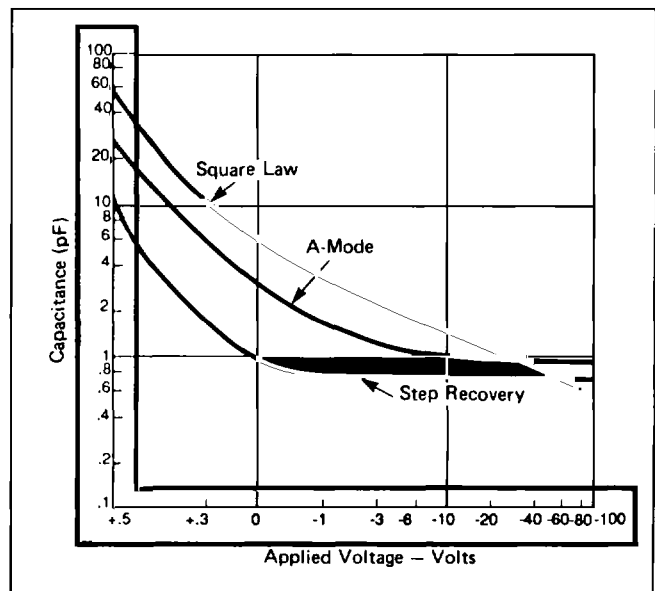
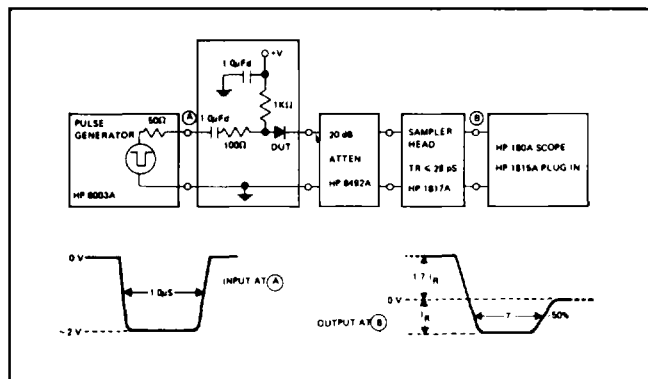
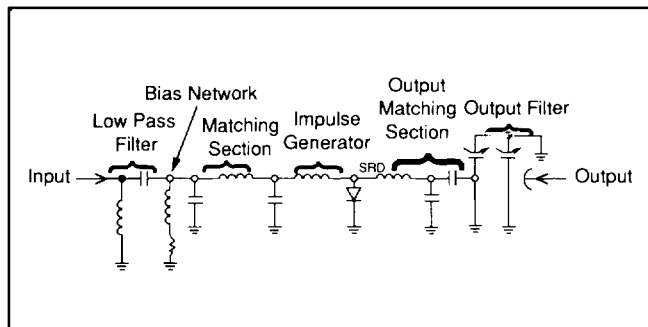

Figure 1. Capacitance vs. Applied Voltage for Square Root Law and A-Mode Multipliers and Step Recovery Diodes
Figure 4. Minority Carrier Lifetime, τ , Test Set-Up
Figure 6. Typical SRD Multiplier Circuit
3 are graphs which can be used to easily determine the limiting values t and T_T . Test circuits to determine t and T_T are shown in Figures 4 and 5. For optimum performance an ideal SRD will be a punch-through device at zero volts (any increase in reverse bias above zero volts will not decrease capacitance) but will have a highly non-linear capacitance increase as the diode is forward biased. In actual practice a step recovery diode will not be zero punch-through but will have $C_{J0}/C_{J6} \leq 1.4$. This can be clearly seen in Figure 1. SRDs are highly efficient, and idlers are not needed although, if used, may further increase efficiency. A typical SRD circuit is shown in Figure 6.
3. Measured at I_F = 10mA, I_R = 6mA (see Figure 4).
4. Measured at I_F = 10 mA, I_R = 6mA (see Figure 4)
4. Measured at $I_F = 10$ mA, $I_R = 6$ mA (see Figure 4)